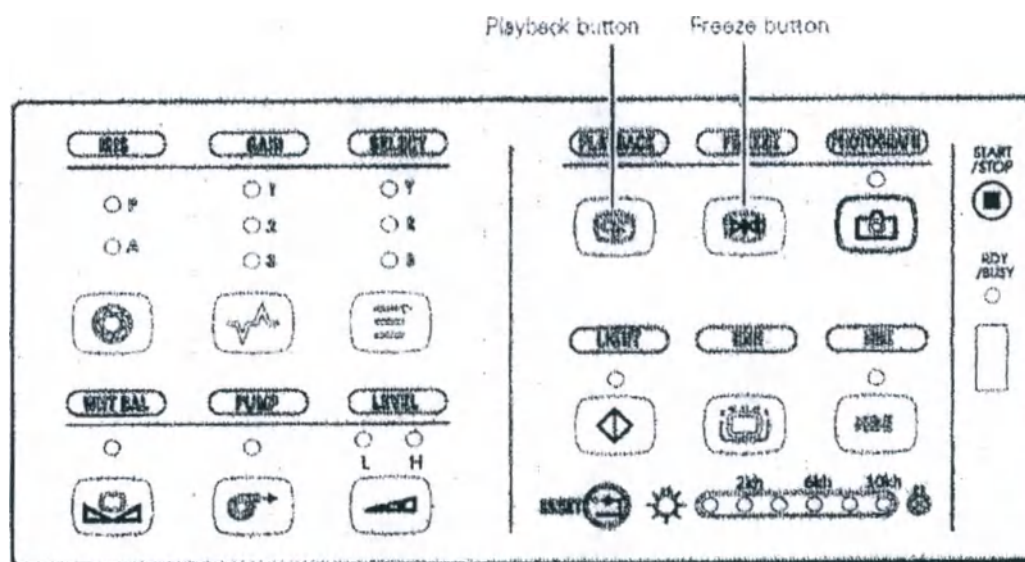

Fig.15.
2. Press the play button on the front panel in the ideoprocessor (see Figure 15) to see the captured image on the screen in frame-by-frame mode. Only 32 images are saved. When the processor is turned off, all 32 saved images are erased from the memory of the processor. To save the desired images, always connect the USB storage device.